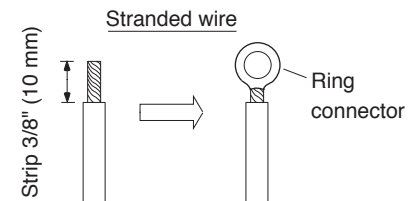

Fig. 28
- (1) Cut the wire end with a cutting pliers, then strip the insulation to expose the stranded wiring about  $3/8$ " (10 mm) and tightly twist the wire ends. (Figs. 28 and 29)
- (2) Using a screwdriver, remove the terminal screw(s) on the terminal plate.
- (3) Using a ring connector fastener or pliers, securely clamp each stripped wire end with a ring connector. (Fig. 28)